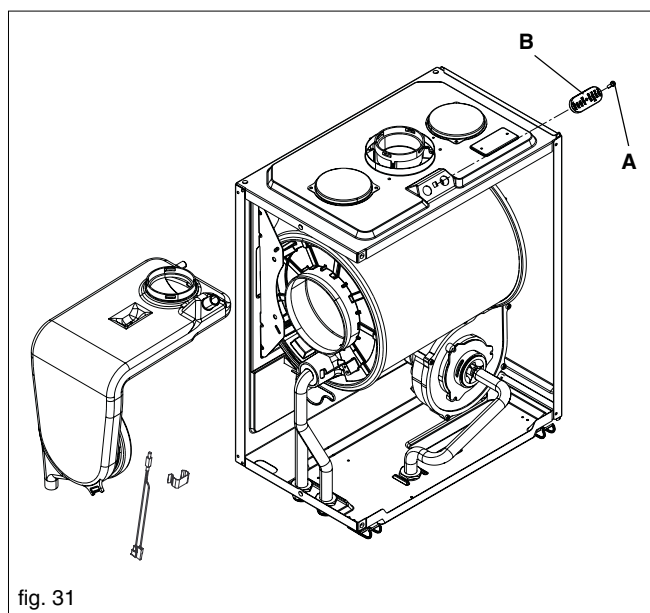

fig. 31
6.20 FLUE COLLECTOR REMOVAL (fig. 31)